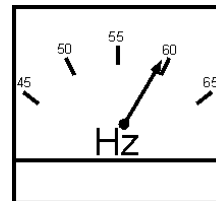

Figure 43. Frequency Meter (Hz)
9. The generator's frequency meter (Figure 43) displays the 60 cycle output frequency in HERTZ.